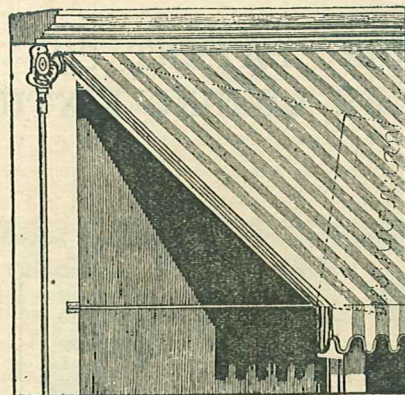

FIG. 1
First determine the place where the joints of the frame will be fastened to the building, which should be from 7 to 8 feet from the sidewalk, according to the height of the front (see Figure 2 in diagram.) You will observe that the curtain—15 inches deep—drops below that point, for which you will have to allow in clearing peoples' heads. Then measure from there to where top of awning can be fastened above the window (see Figure 1 in diagram), which will be the distance from 1 to 2, or height of awning; 2 to 3, in a high building, should be the same as 1 and 2, but in a low one a little more. If the distance from 2 to 3 is more than 10 inches longer than the distance from 1 to 2, slide rods must be used. Then measure the width of store from center of column on one side to the same on the other side, which will be the distance from 3 to 4, or width of awning. If the top where the awning is to be attached projects beyond the face of the building or is back of the level, mention how much. When ordering a frame, state whether it is to be fixed in stone, brick, iron or wood, and whether door posts and face of building or outer columns are in line; also whether the frame requires two, three, four or more joints and bars.
**F**IRST ascertain the height of the Awning, that is from 1 to 2; measure that distance down the house from Fig. 1 in diagram, which is the place for the joints (see cut No. 2). If the columns are iron, they will have to be bored and tapped and the ends of the joints threaded to screw in; if stone or brick, make holes 3 in. deep and cement firmly; if wood, fasten on with screws. Be careful to have the joints in line, and if any of the columns stand back, put the long joints on them; now fasten the bars to the joints with the joint screws and pass the front rod through the middle ones, and put on both end bars and screw on the nuts. Put up the pulleys as shown in diagram. Pass the ropes through the pulleys, as shown in diagram, one through each center pulley, and attach to front rod, the outside ropes first through the center, then through the outside pulley, and fasten to the front rod, 12 in. from the end. Now take the Awning, and while the frame is in the same position as shown in the diagram, take off the outside nuts, put the ends of the front rod through the large holes in the corners of the Awning and replace the nuts outside the Awning; tie to front rod with a tarred string, then raise it up and fix the top to the front at the proper height from the joints; let it down again and tie the sides to the joints with the tarred string by passing them through the eyelet in the Awning at the side just above the scallop, and it is finished.
State if ends are to be attached to awning as per (Fig. 1, showing ends) or separate as per (Fig. 2, page 7).
Where ends are sewed to the body of the awning (as in Fig. 1, which shows ends folded under) we furnish everything necessary for fastening. Where ends are separate (as in Fig. 2) the upper part of end is securely fastened directly under the roller and to the extension rod of frame. We sew rings on inside edge of end curtain and by placing a pulley at the upper inside corner and running a cord through the rings the ends can be folded up very neatly by simply pulling the rope tight.
**F**IRST determine the place where the joints of the frame will be fastened to the building, which should be from 7 to 8 ft. from the sidewalk, according to the height of the front (see figure 2 in diagram). You will observe that the curtain—15 in. deep—drops below that point, for which you will have to allow in clearing people's heads. Then measure from there to where top of awning can be fastened above (see figure 1 in diagram) which will be the distance from 1 to 2, or height of awning, 2 to 3, in a high building, should be the same as 1 and 2, but in a low one a little more. Then measure the width from center of column on one side to the same on the other side, which will be the distance from 3 to 4, or width of awning. If the top where the awning is to be attached projects or is back of the level, mention how much.